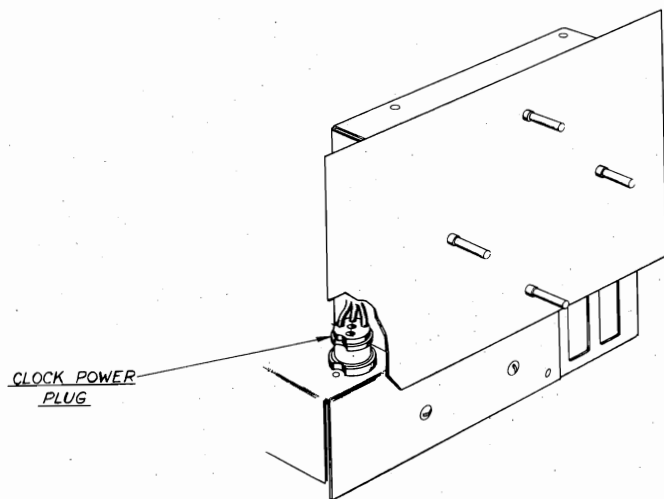

Figure 1
4. Clock power plug which fits into receptacle on top of chassis (Fig. 1).